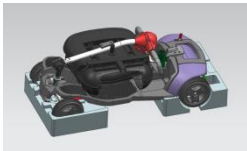

Figure 11.1
1. Fix the mobility scooter in the cardboard box by using custom foam blocks. Remove the seat and place it on the upper part of the pedal. Rotate the steering lever downward and lock it in place to the upper part of the seat. (Figure 11.1)